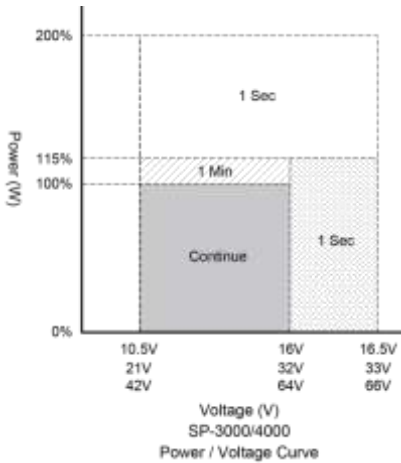
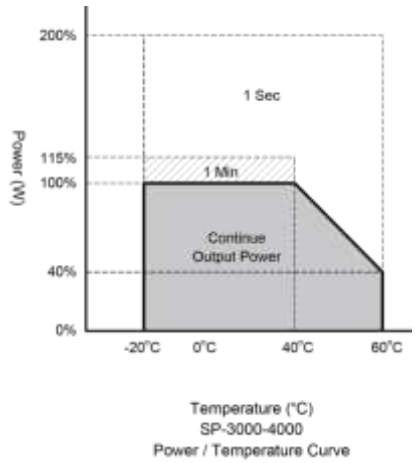

Figure 3. SP-3000/4000
Figure 4. SP-3000/4000
- ① Voltage range : Please refer to Figure 3
- ② Normal load Condition : Vin =12.5V/25V/50V, Vo=200/220/230/240 VAC 80% load (PF=1.0)
- ③ Operating temperature : Please refer to Figure 4
- ④ **Warning** : This is a class A product. In a domestic environment this product may cause radio interference in which case the user may be required to take adequate measures.
① Voltage range : Please refer to Figure 3
② Normal load Condition : $V_{in} = 12.5V/25V/50V$, $V_o = 100/110/115/120$ VAC 80% load (PF=1.0)
③ Operating temperature : Please refer to Figure 4
④ **Warning** : This is a class A product. In a domestic environment this product may cause radio interference in which case the user may be required to take adequate measures.
- ② Normal load Condition : Vin =25V/50V, Vo=200/220/230/240 VAC 80% load (PF=1.0)